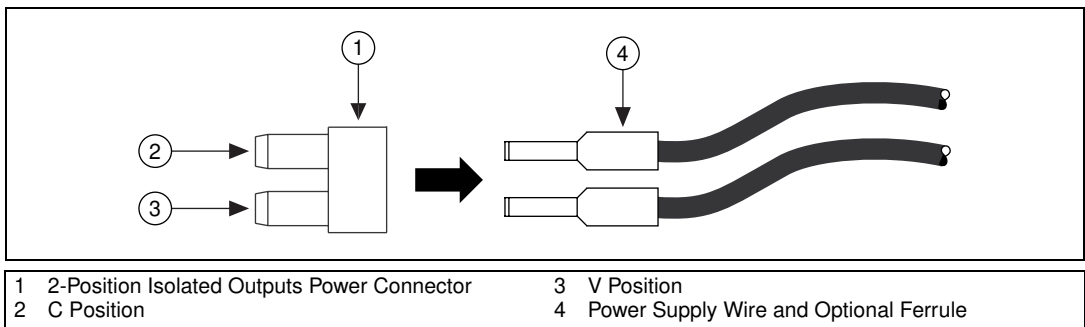

Figure 3. Connecting the 2-Position Power Connector to the Power Supply
- a. Reconnect the wire that was connected to the V position on the 4-position power connector to the V position on the 2-position isolated outputs power connector, shown in Figure 3.
- b. Reconnect the wire that was connected to the C position on the 4-position power connector to the C position on the 2-position isolated outputs power connector, shown in Figure 3.